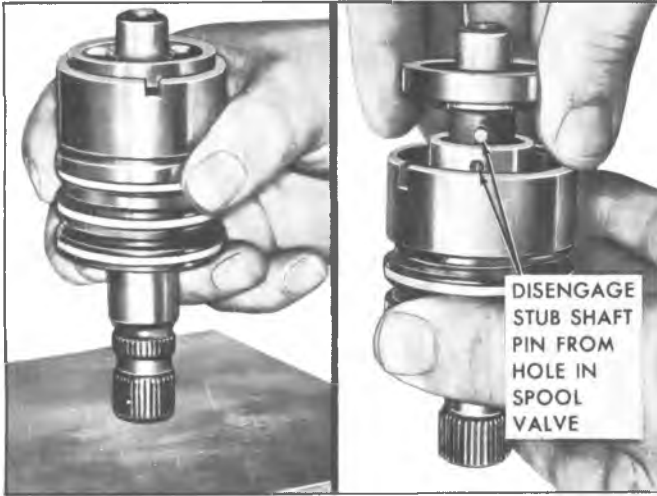

Fig. 43-Removing Stub Shaft Assembly
lightly tap the stub shaft against the bench until the shaft cap is free from the valve body (fig. 43).
- c. Carefully disengage the shaft pin from the valve spool and remove the shaft assembly (fig. 43).